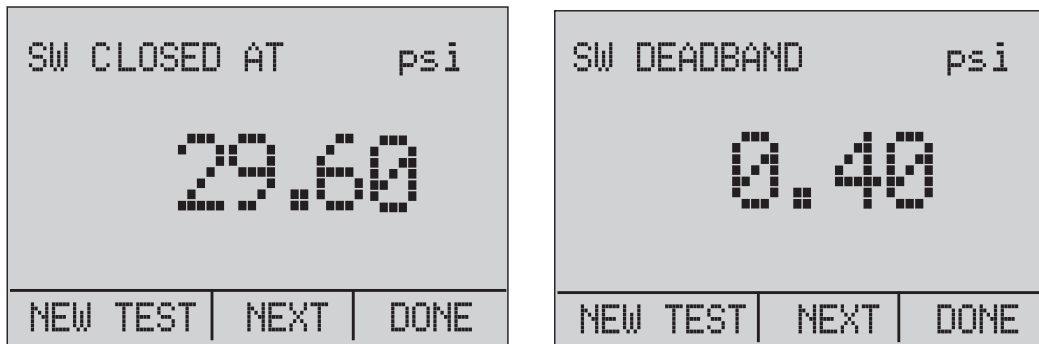

Figure 24. Switch Test and Deadband Results
- Select the "NEXT" option to show the pressure at which the switch closed and the deadband. See Figure 24.